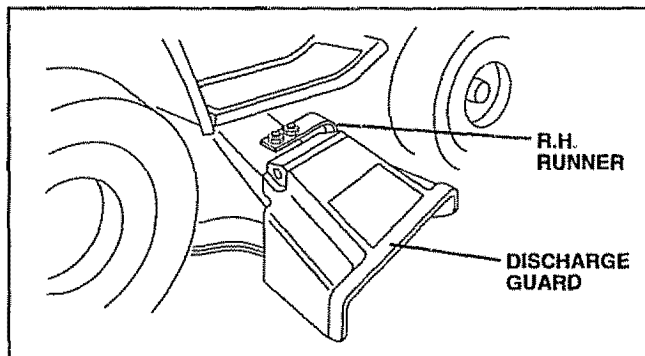

FIG. 8
- Use the runner on the right hand side of mower as a guide. The blade cuts approximately an inch outside the runner (See Fig. 8).